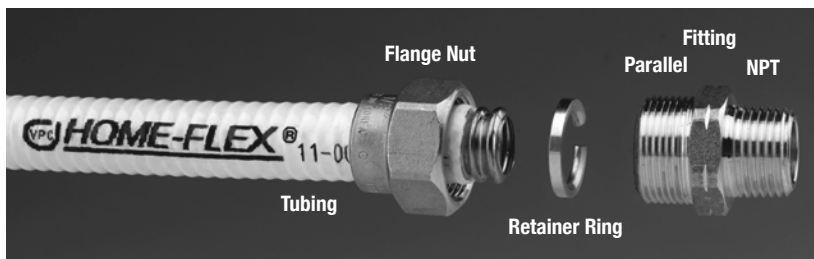

Figure 4.2 (1) Gasket in Fitting Before Assembly, (2) After Assembly (note groove in gasket), and (3) Compressed Tubing
HOME-FLEX® fittings achieve seal by compressing the tubing into the gasket (Figure 4.2). It is critical that the cut end of the tubing is clean of any burrs or jagged edges, and that there is no debris on the tubing or gasket. A seal is achieved with a good deal of force (Table 4.3). In the absence of a torque wrench, the general guideline is to tighten with two wrenches (one holding the fitting in place, the other turning the flange nut counter-clockwise) until the nut will no longer turn and only 2-3 threads are showing.
**Note: The gasket can only be used once.** Once it has been compressed (Figure 4.2) during the assembly process, it cannot be reused. A new gasket must be installed in the fitting.